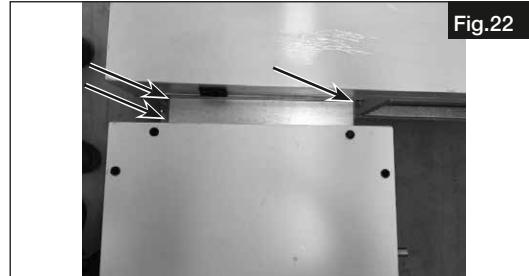

Fig.22
5. Screw the change-over-unit DX and the AIR1 unit together (Screw: M8 x 16; see Fig.22).